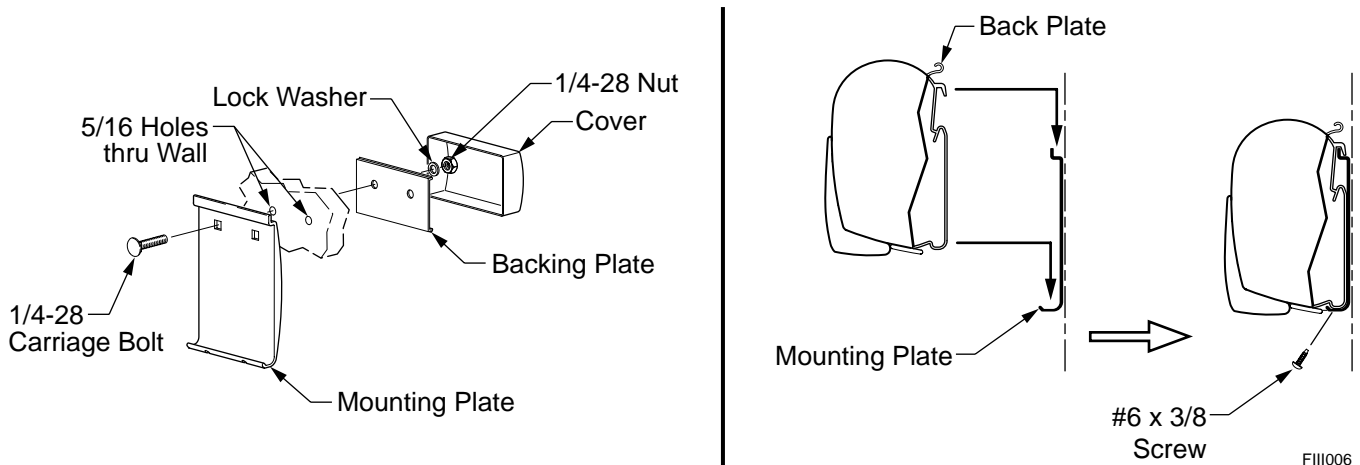

Figure 6. Mount Using Plates.
7. (Refer to Figure 6) Attach the mounting plates to the awning case using the self-tapping #6 x 3/8 screws.